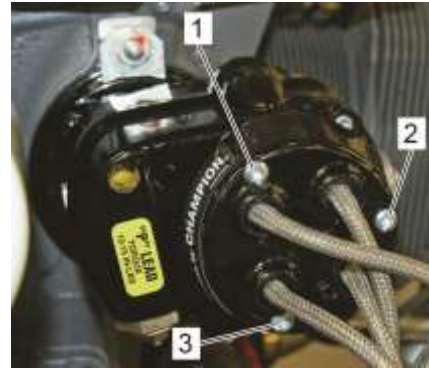

Figure 6
- (16) Spray mold release compound on rubber coated leads of the magneto harness.
- (17) Connect the harness cap to the respective magneto with three screws shown in Figure 6. Tighten the three screws until all screws are touching the harness cap to ensure that there is an even gap around the cap.